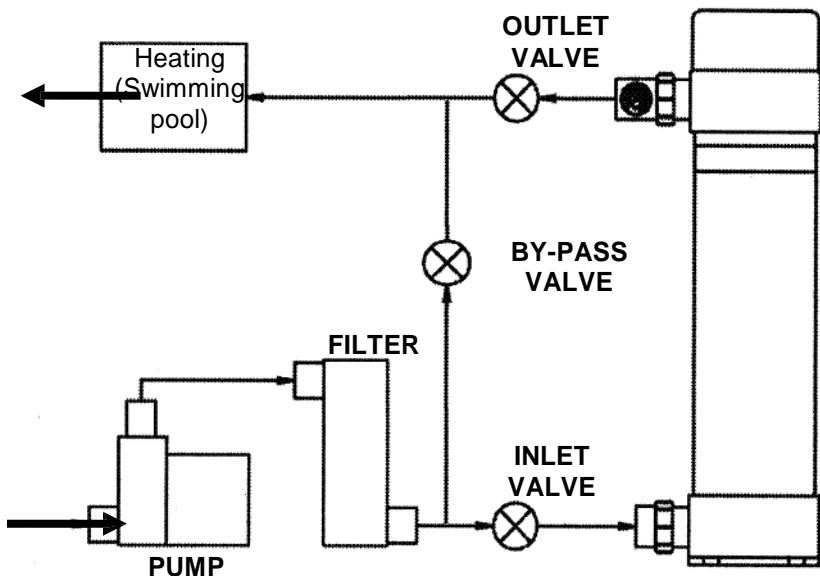

FIG. 1
**Plumbing The UV Unit** - Your DELTA UV unit will need to be plumbed into your pond or swimming pool circulation system. The diagram (Fig. 1) shows how the unit is to be plumbed. Note that the water is to be piped from the pressure side of the pump and after the filter, in and out of the DELTA UV unit. The inlet for the water is at the bottom of the DELTA UV unit, and the outlet is at the top of the DELTA UV unit. If your pump exceeds the maximum flow rate of the DELTA UV unit, installation of a plumbing by-pass will be necessary to bypass some of the pump's flow around the DELTA UV unit so the maximum flow rate of the DELTA UV unit will not be exceeded. **A bypass system is recommended in all installations.**